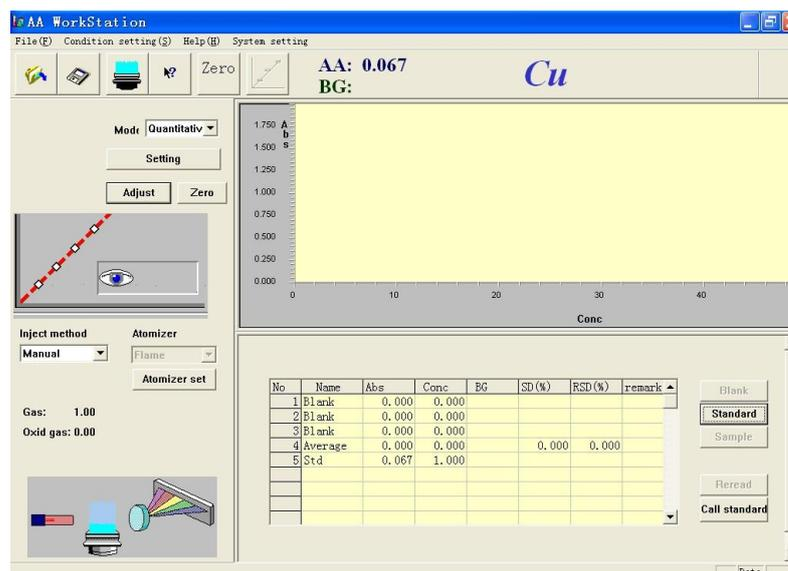

Figure 5-13
10. Spray and suck standard sample 1 blank. Press "Standard sample", and the screen will be shown as that in Figure 5-13.